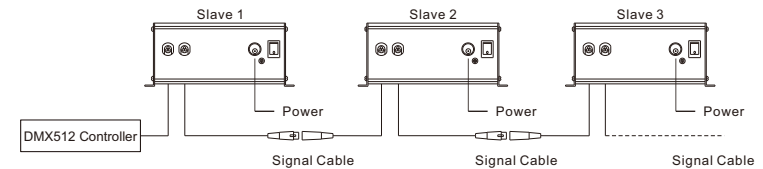

Fig.3
(2) Calculation of DMX Address:
(3) Dimming Knob: The default brightness is 100%. You can adjust the brightness by turning the knob.
(4) DMX Channels:
(5) The connection of DMX Signal Control Mode (Fig. 3):